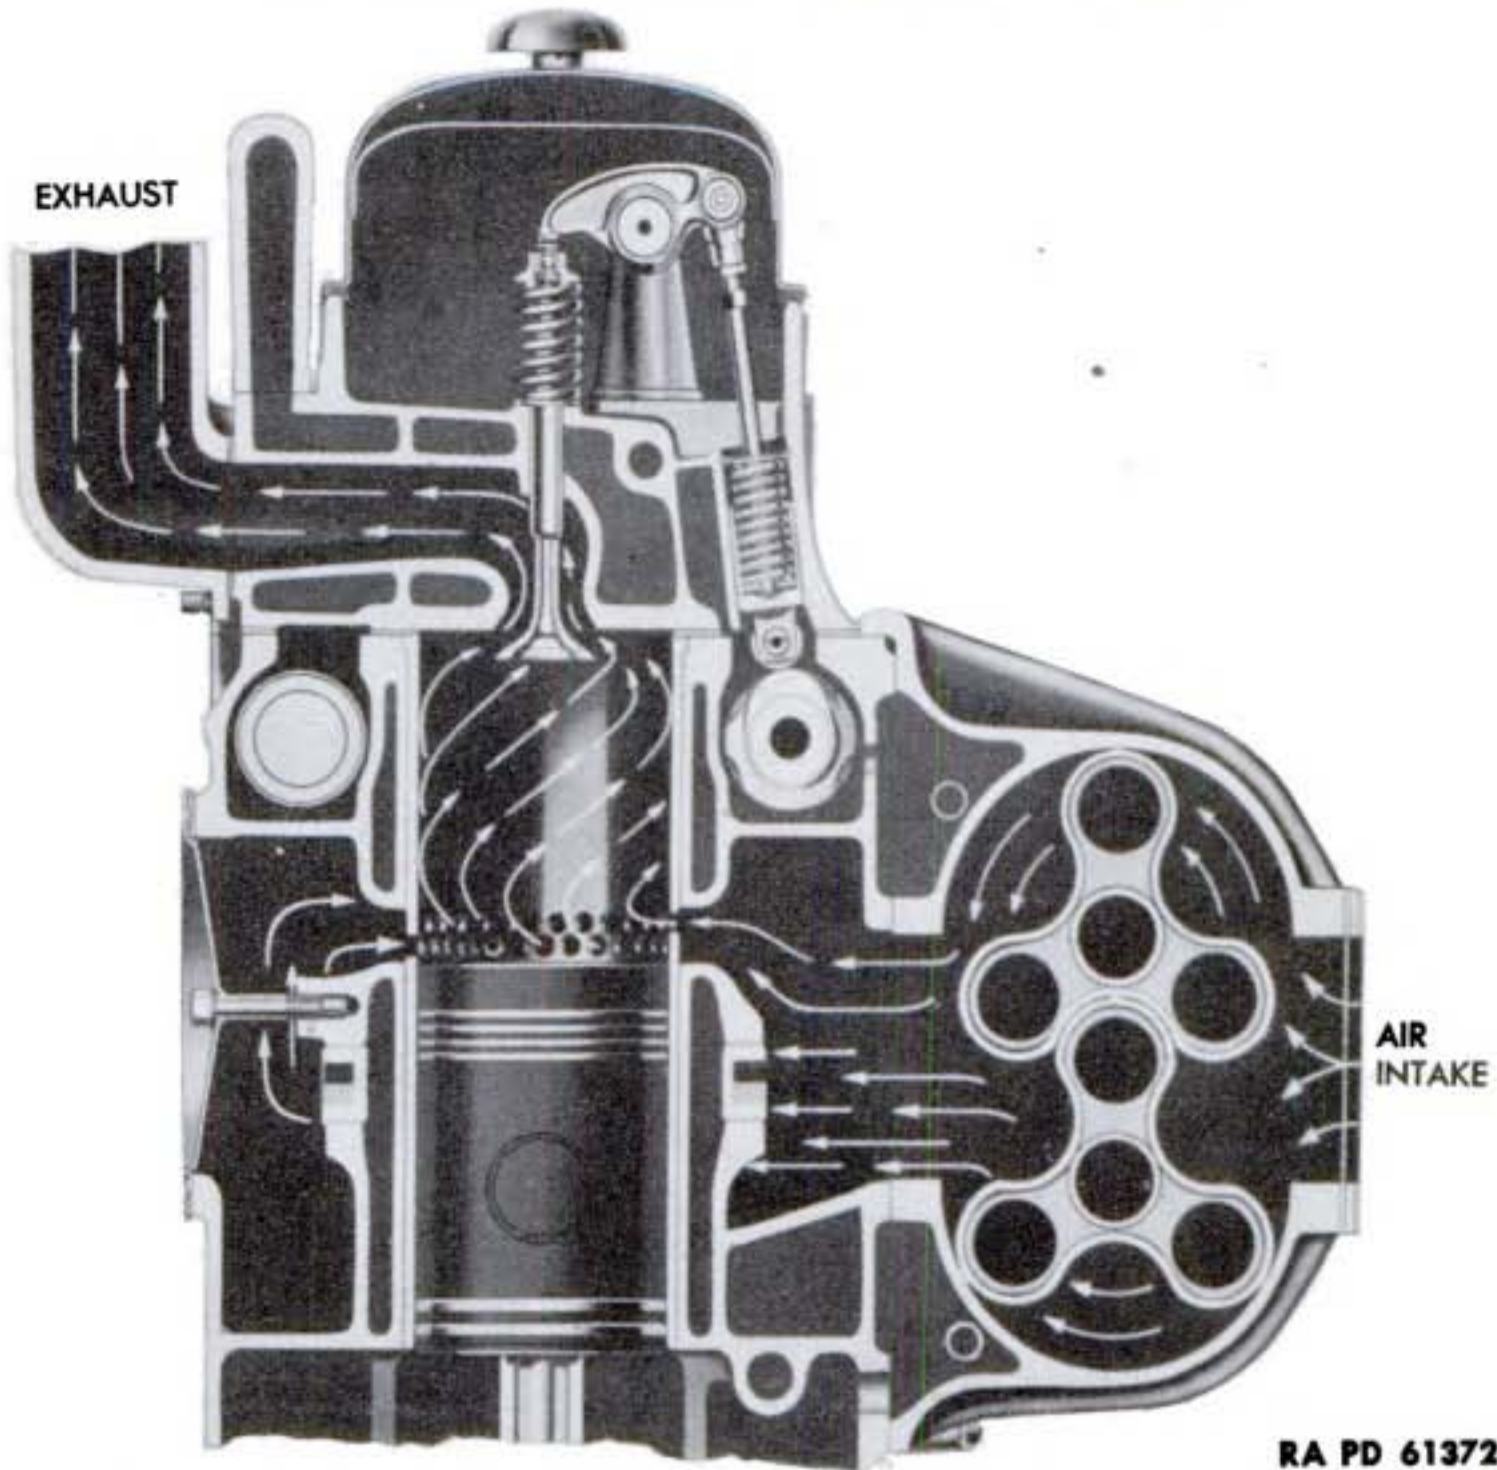

Figure 60—Sectional View Showing How Blower Forces Air Into Cylinders
a. Description of Air Intake System. The air intake system for each engine consists of three air cleaners, an air inlet housing with emergency stop valve, blower and air box (fig. 32). Air drawn through the air cleaners and inlet housing by the blower is forced under pressure into the air box which surrounds the lower portion of the cylinders, and then into the cylinders whenever the air ports are uncovered by the pistons (fig. 60). Two air heaters (fig. 39), installed in handhole openings on inner side of each engine, are used to preheat the air in the air box for quick starting in cold weather.
a. **Description.** In the two-cycle Diesel engine the blower forces air into the cylinders to sweep out burned gases and supply fresh air for combustion. Air enters the blower from the air cleaners through the air inlet housing. Two hollow, spiral-shaped, three-bladed rotors in the blower housing force the air under pressure into the air box which surrounds the cylinders. The air enters the cylinder through ports and holes in the cylinder liners (fig. 60). The blower drive shaft is driven by the blower drive gear in the engine gear train.